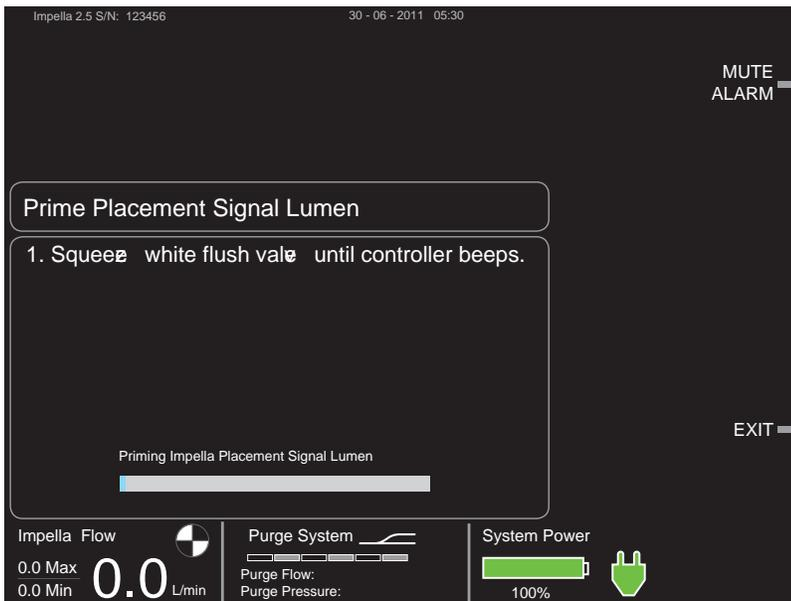

Figure 5.9 Priming the Placement Signal Lumen
- Once the purge lumen is primed, the controller automatically advances to the next screen (Figure 5.9).